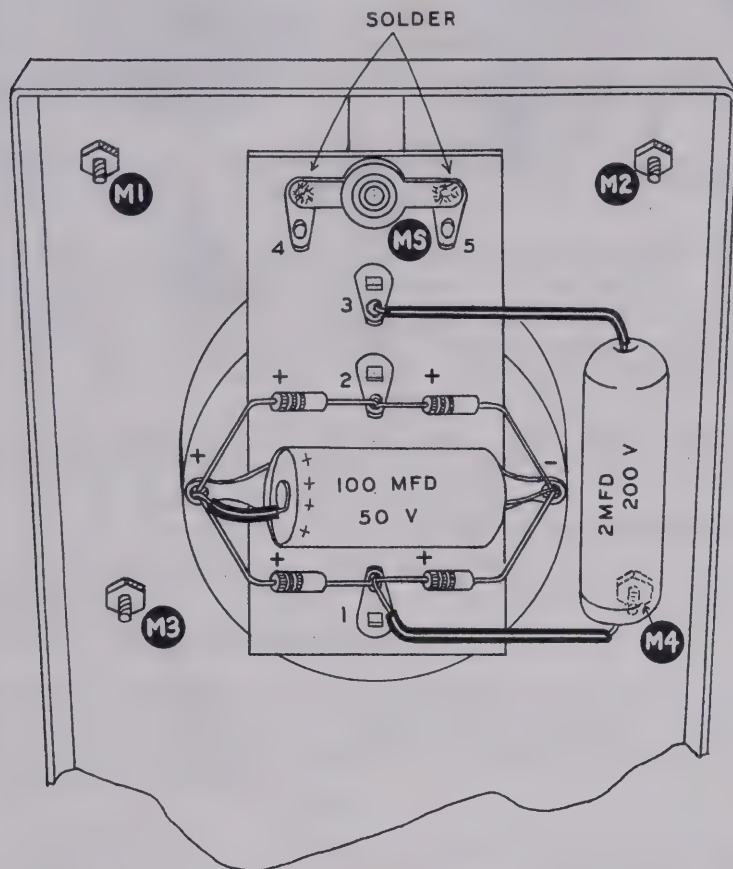

Figure 1
- (✓) Connect the cathode lead of a crystal diode to the positive (+) terminal of the meter (NS). Connect the other lead to lug 2 (NS).
- (✓) Connect the cathode lead of a crystal diode to lug 2 (NS). Connect the other lead to the negative (-) meter terminal (NS).
- (✓) Connect either lead of a 2 μ fd, 200 volt metallized tubular capacitor to lug 3 (NS) (use sleeving). Connect the other lead to lug 1 (S-3) (use sleeving).
- (✓) Connect the positive (+) lead of a 100 μ fd 50 volt electrolytic capacitor to the positive (+) terminal of the meter (S-3) (use sleeving). Connect the negative (-) lead of the capacitor to the negative (-) meter terminal (S-3). The capacitor should lie below the meter studs as shown in Figure 1.
- (✓) Mount the pilot light socket on the terminal board at MS. Solder the socket to terminals 4 and 5 as shown in Figure 1.